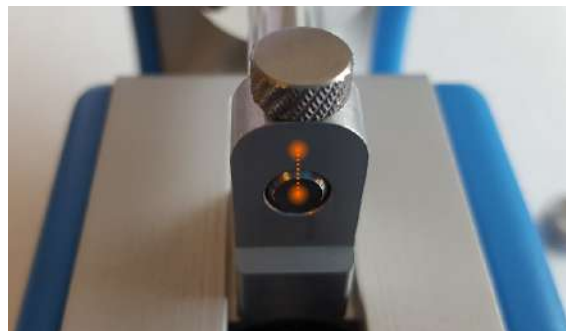

FIGURE 4.6 – Alignment to be obtained when screwing the plunger lock screw
13. Align the plunger bottom with the holder, according to Figure 4.6. The two surfaces marked in orange should be coplanar.